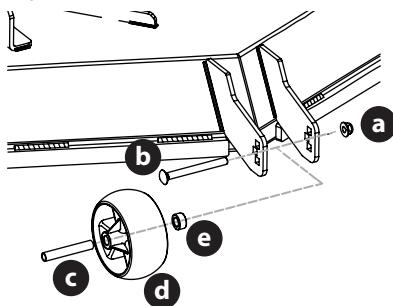

Figure 16
6. Remove the lock nut (a) securing one of the front gauge wheels to the deck. Remove the shoulder screw (b), tube spacer (c), and shoulder spacer (e) to remove the wheel (d) (Figure 16).